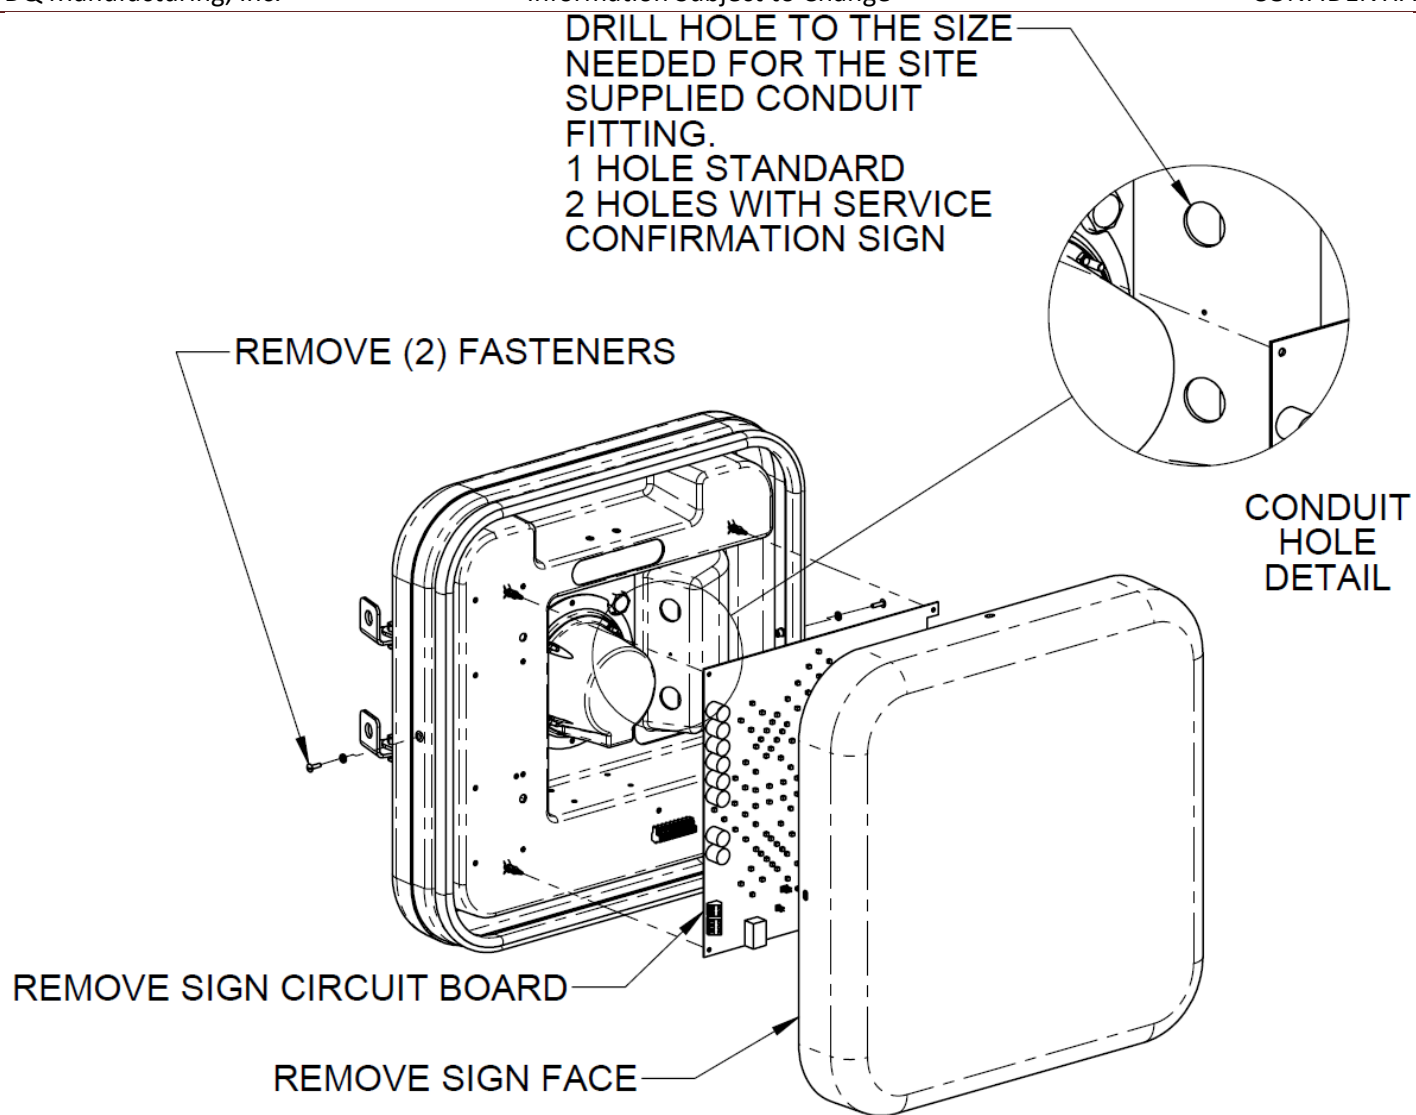
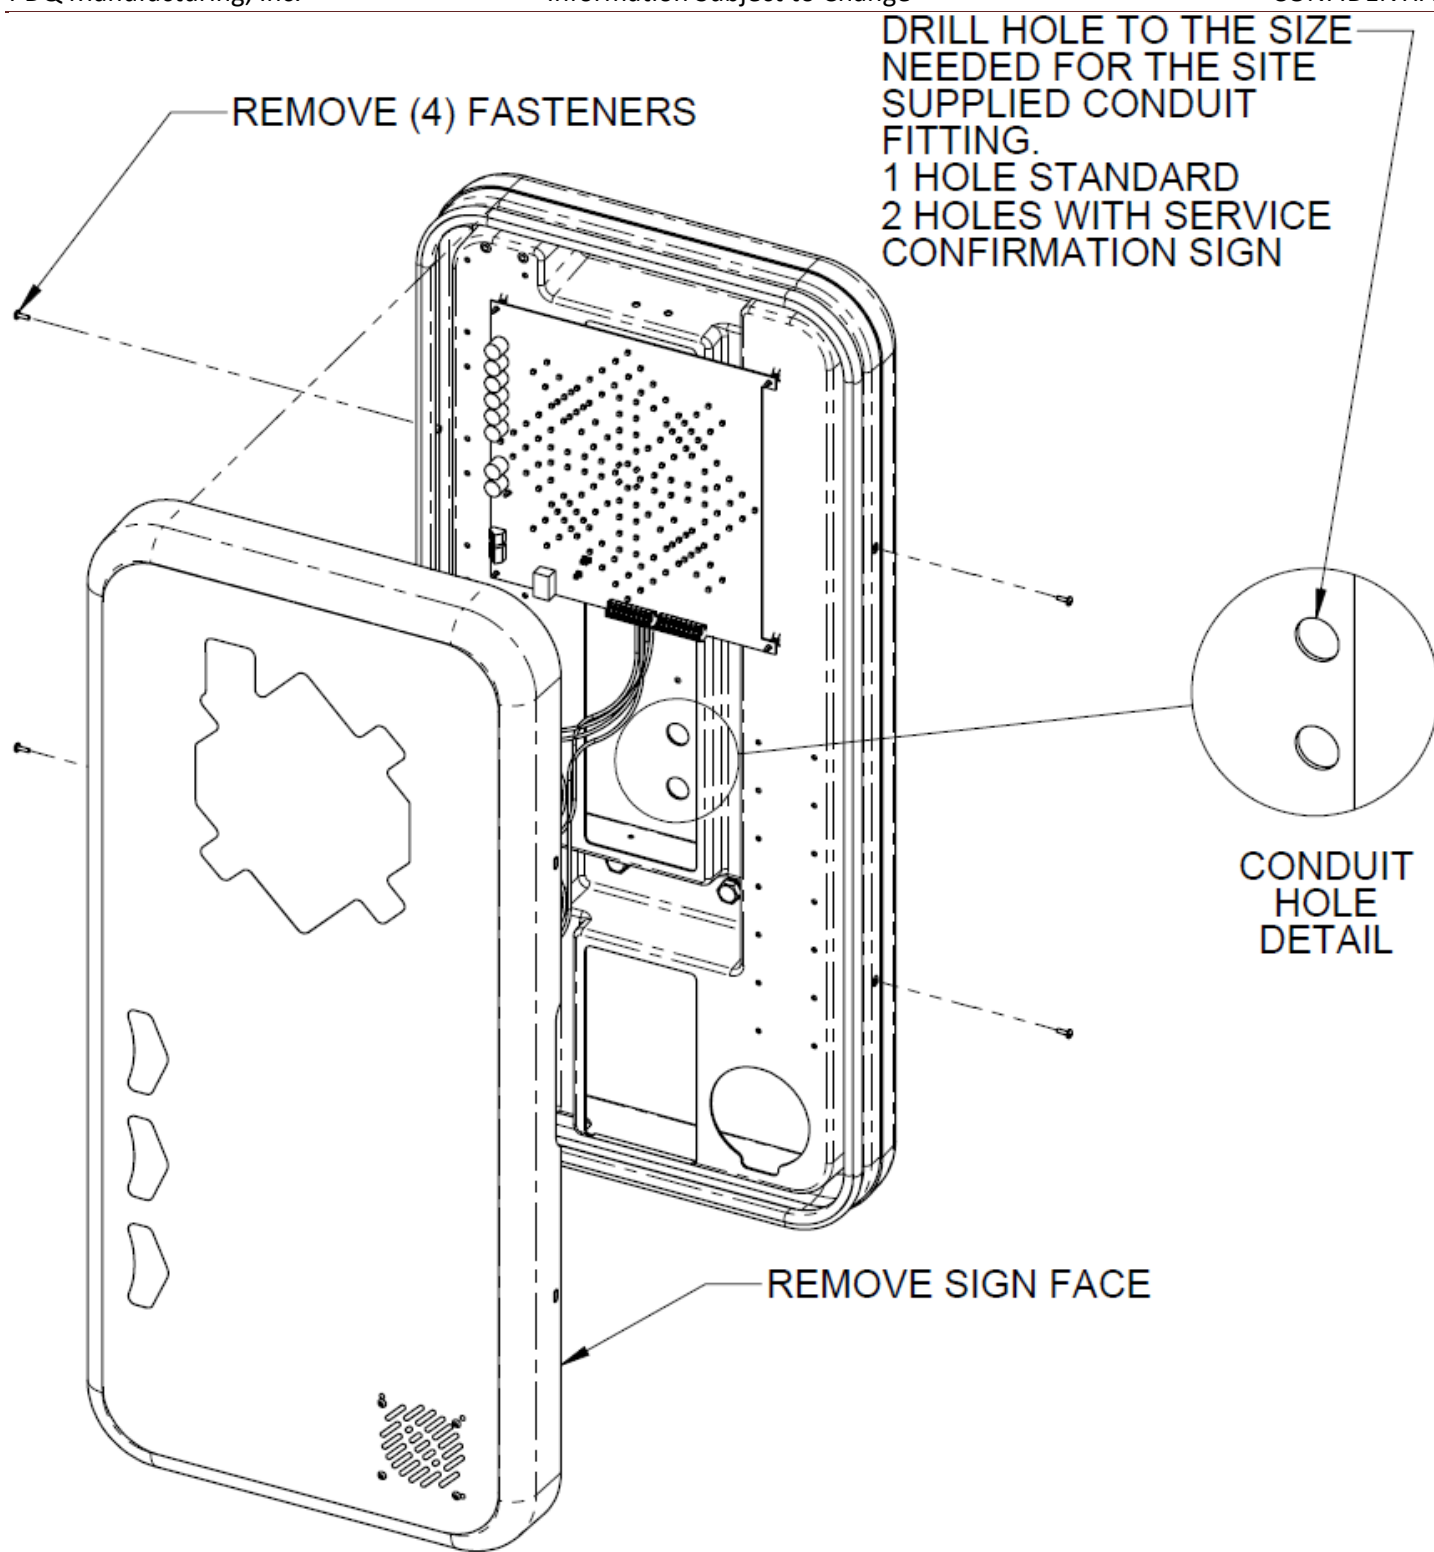

Figure 160 – Basic In-Bay Sign Preparation for Installation
Figure 161 - Deluxe In-Bay Sign Preparation for Installation
- Remove the sign circuit board from the stand-off fasteners for the Basic In-Bay Sign only. Use care to not damage the circuit board or its fasteners. See Figure 160 for the Basic In-Bay Sign and Figure 161 for the Deluxe In-Bay Sign.
- The back cover of the sign enclosure has center marks to aid in the drilling process. Drill one or two holes to the size needed for the site supplied conduit connector. Caution must be taken not to damage the audio speaker. See the detail views in Figure 160 and Figure 161.